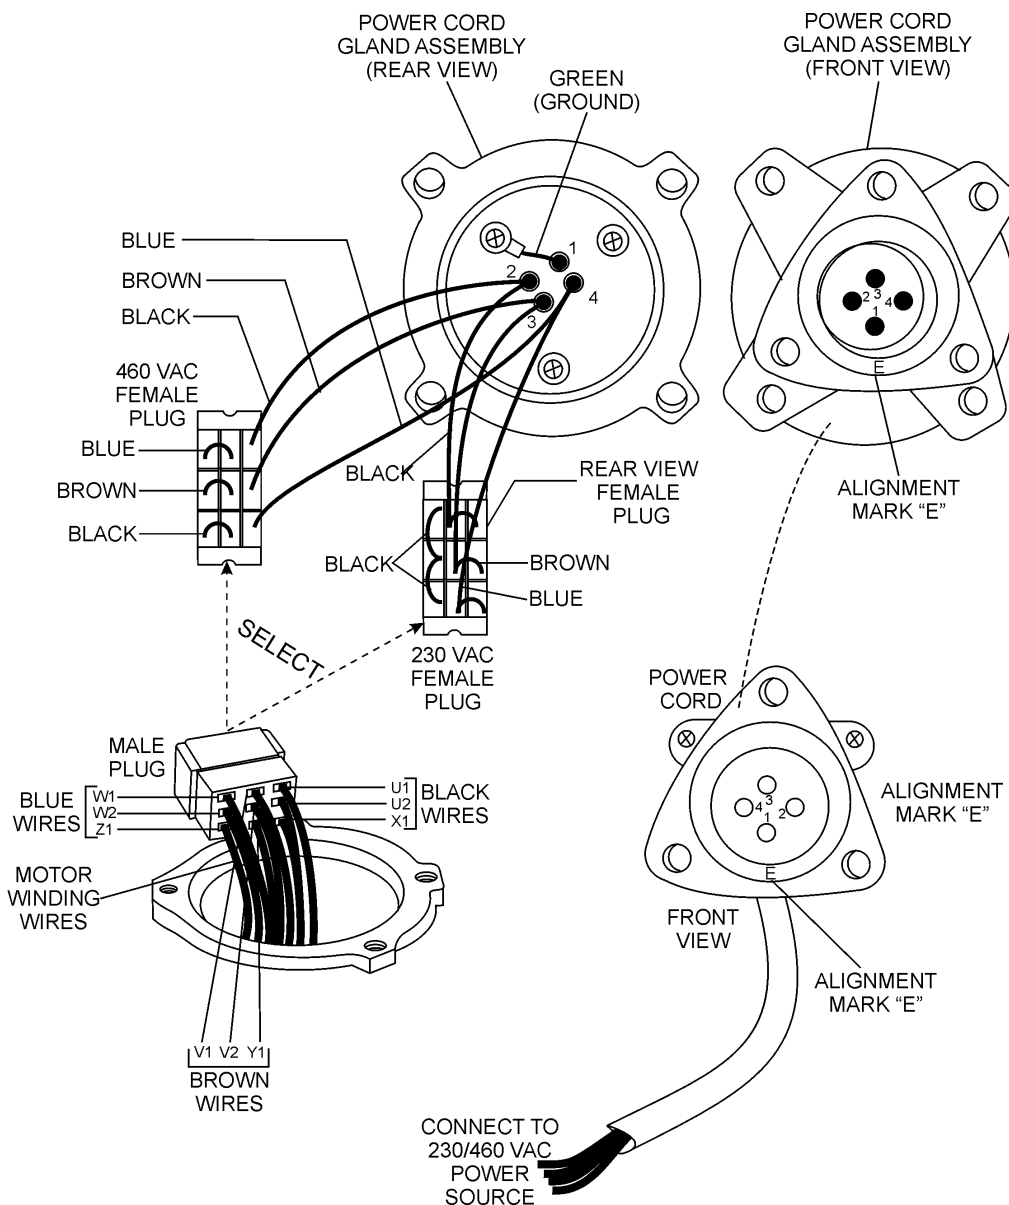

Figure 6. 230/460 VAC Pump Voltage Selection (9-Pin Plug)
1. Remove the four retaining screws that secure the power cord gland assembly to the pump casing, and pull the 230 VAC 9-pin female plug (Figure 6) from the pump's cavity.